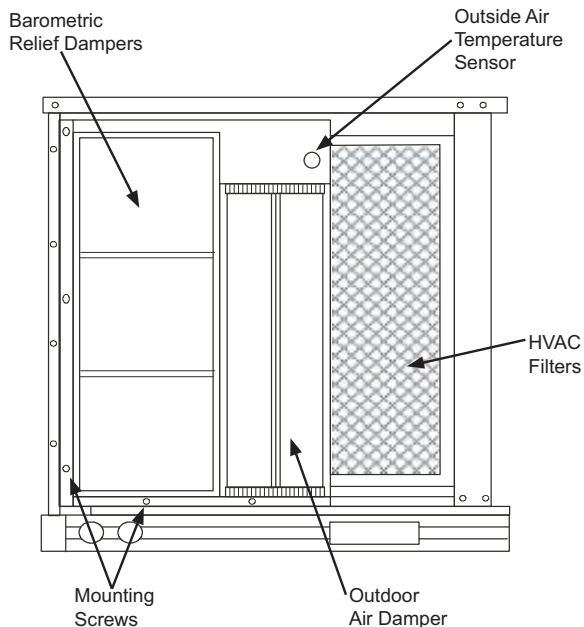

Fig. 17 - Horizontal EconoMi\$er X Installed in Unit
8. Secure the EconoMi\$er X mounting flanges to the unit with the screws provided (See Fig. 17).